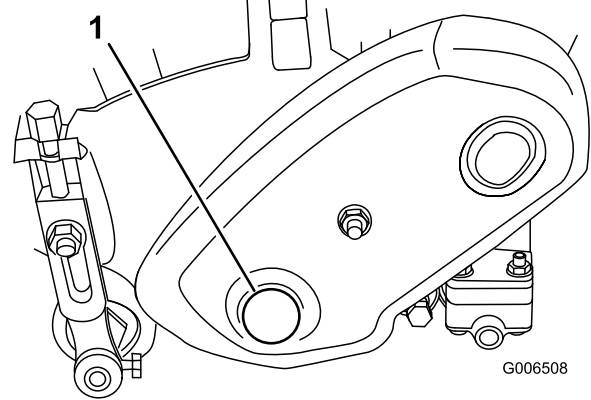

Figure 61
1. Remove plug from the reel drive cover on the left side of reel assembly (Figure 61)